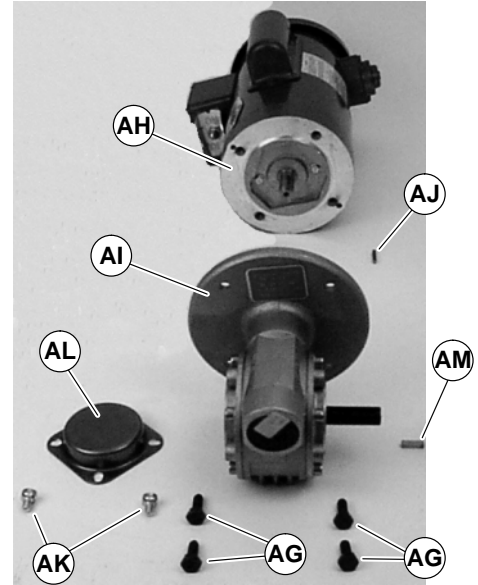

Figure 19
6. Remove four screws (AG of Figure 19). Detach motor (AH) from gear reducer (AI). Retain motor output shaft key (AJ).
12. With key (AJ of Figure 19) in keyway, slide motor (AH) and gear reducer (AI) together. Install screws (AG) and tighten.